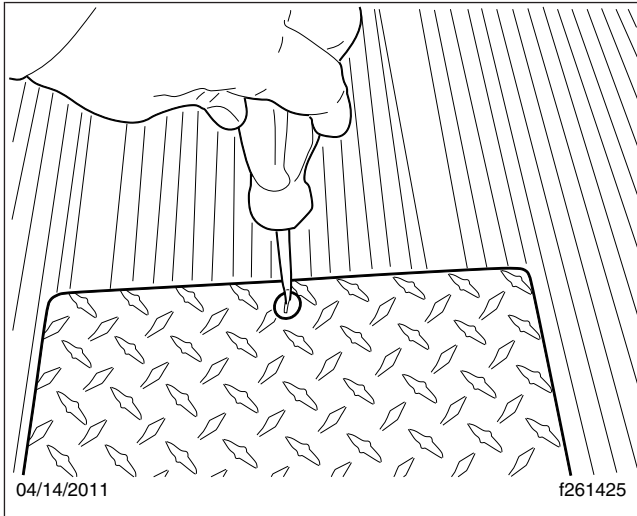

Fig. 16.18, Removing the Service Panel Screws
1. Park the vehicle on a level surface, shift the transmission to neutral (N), shut down the engine, and set the parking brake.
2. Using a flat-blade screwdriver, remove the four screws that attach the service panel cover to the cargo floor. See Fig. 16.18.